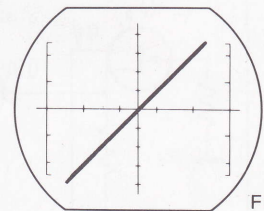

Fig. 16
2. Line should be as shown in fig. 16.